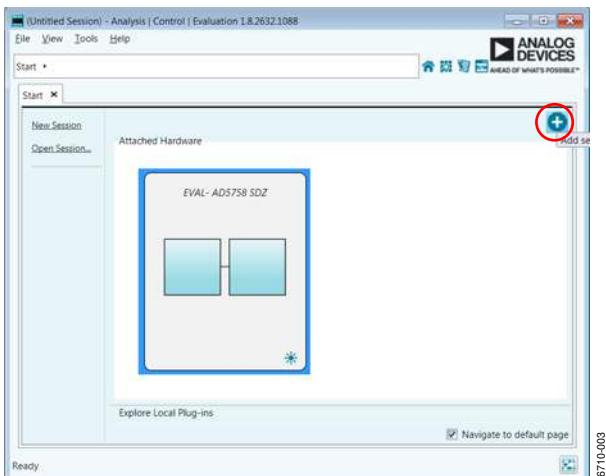
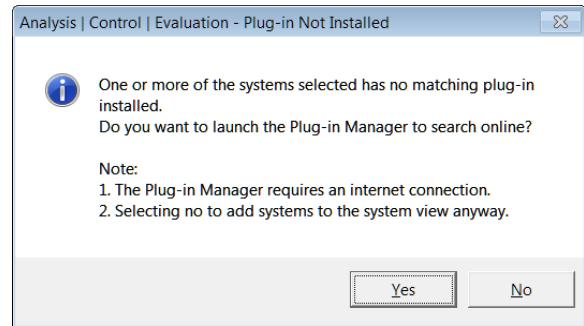
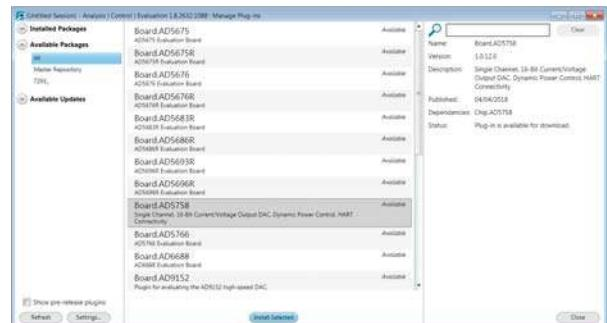
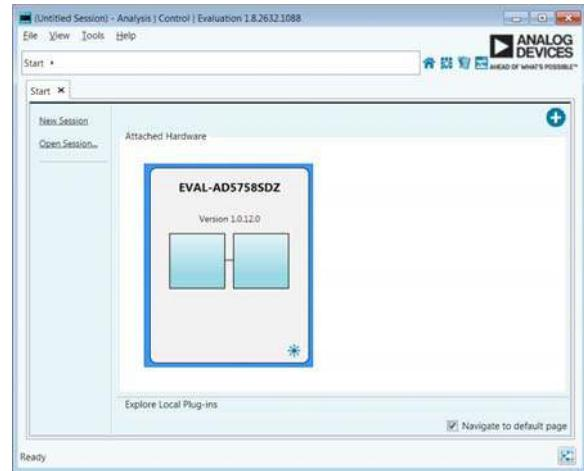

Figure 3. EVAL-AD5758SDZ Plug-In Not Installed
Figure 4. Installing Plug-In Pop-Up Window
Figure 5. Plug-In Manager Window
Figure 6. Attached Hardware Pane with EVAL-AD5758SDZ Connection
5. When setting up the evaluation board for the first time, the EVAL-AD5758SDZ plug-in may need to be installed. If the plug-in appears as shown in Figure 6, go to Step 7. If the plug-in appears as shown in Figure 3, click the button that is circled in red in Figure 3. After clicking this button, the pop-up window shown in Figure 4 appears. Click Yes.
6. A new window appears, as shown in Figure 5. Navigate to the **Board.AD5758** plug-in and click **Install Selected**. The EVAL-AD5758SDZ plug-in installs and is displayed, as shown in Figure 6.